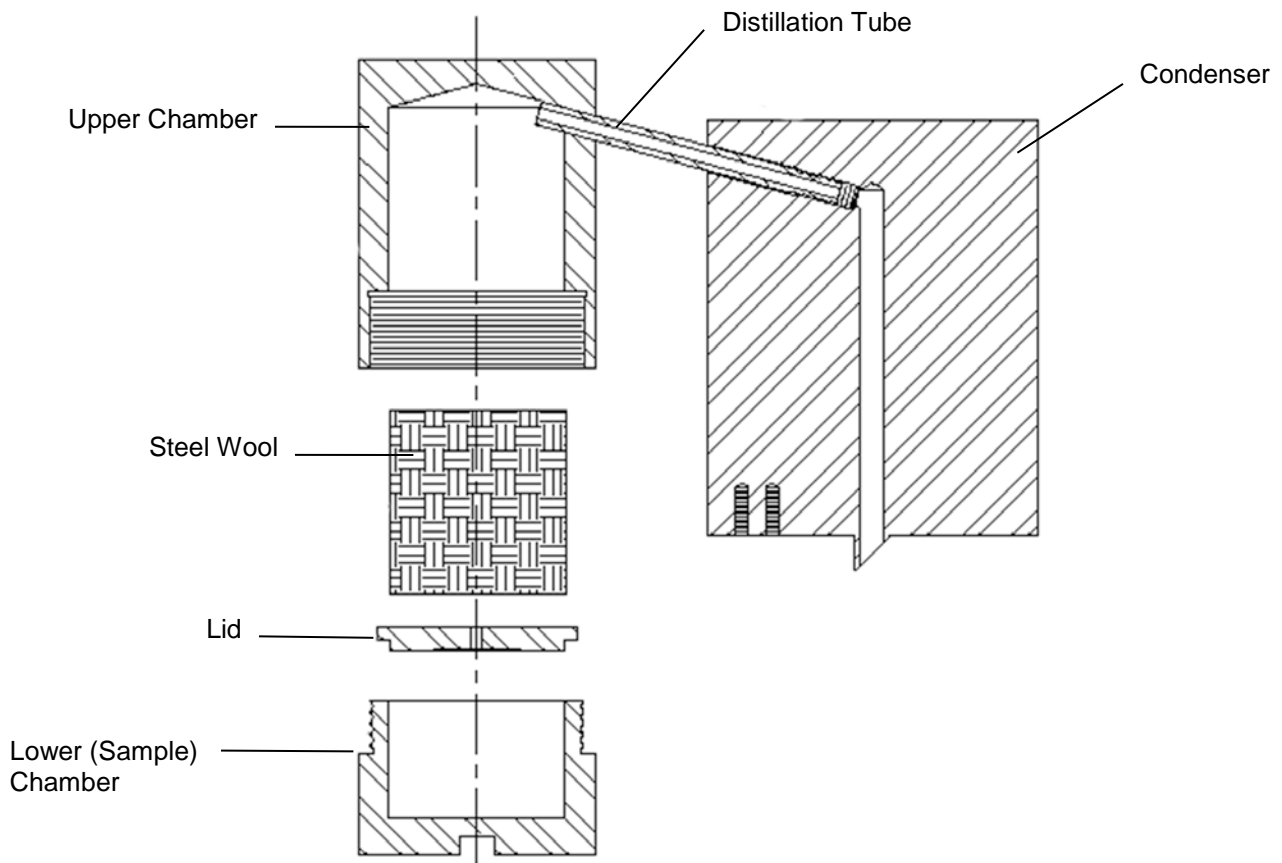

Figure 4-3 Retort Assembly
4. Pack the upper chamber with steel wool. See Figure 4-3.